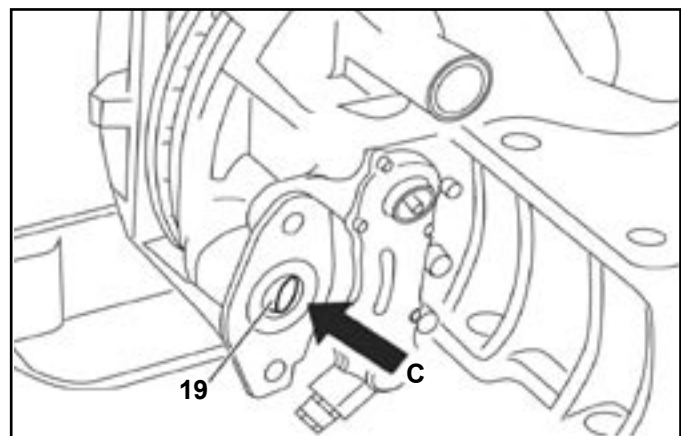

FIGURE 51 - ACTUATOR FLANGE
Before installing the new brake chamber, the actuator flange (see Figure 51, arrow C) must be cleaned, and inspected. Consult the vehicle manual. The spherical cup in the lever (19) must be greased with white grease (Part No. II14525 or II32868).